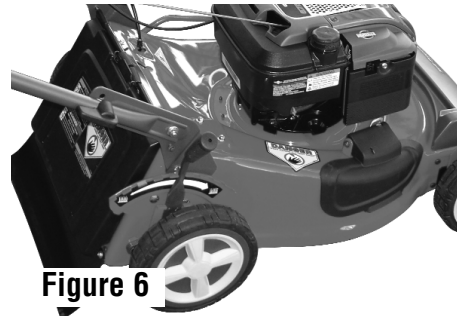

Figure 6
- Leave the mulching cover and the installed mulching plug in place (Figure 6).